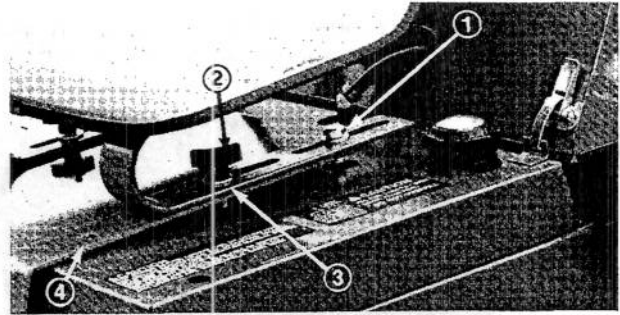

Figure 3
2. Mount seat and springs to rear holes in mount plate with (2) shoulder bolts, flatwashers and locknuts (Fig. 3).
3. Secure front slots of seat springs to mount plate with adjustment handles and flatwashers (Fig. 3).